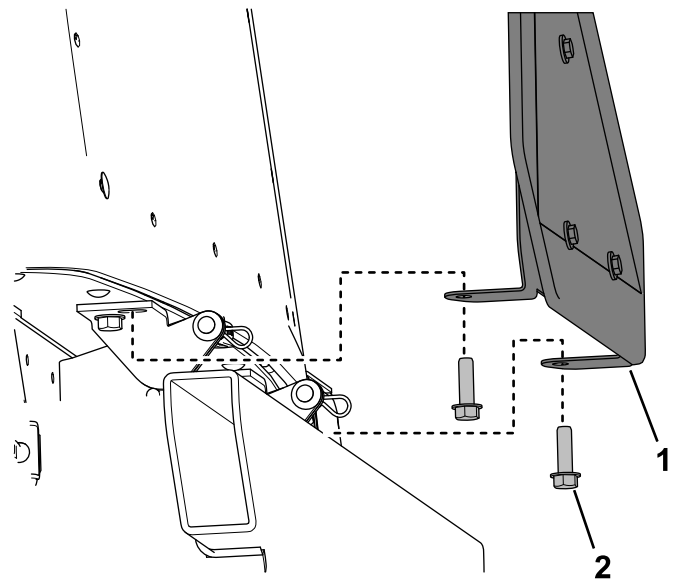

Figure 55
- Align the holes on the slow moving vehicle mount with the slots in the hood pivot bracket (Figure 55).
- Assemble the slow moving vehicle mount to the hood pivot bracket (Figure 55) with the 2 flange-head capscrews (3/8 x 1-1/4 inches).